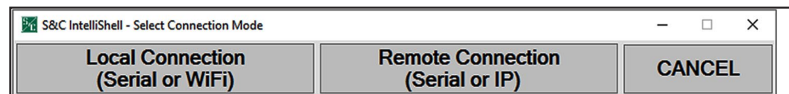

Figure 13. The S&C IntelliShell—Select Connection Mode dialog box.
STEP 2. Select the **Local Connection** option in the S&C IntelliShell—Select Connection Mode dialog box. See Figure 13.